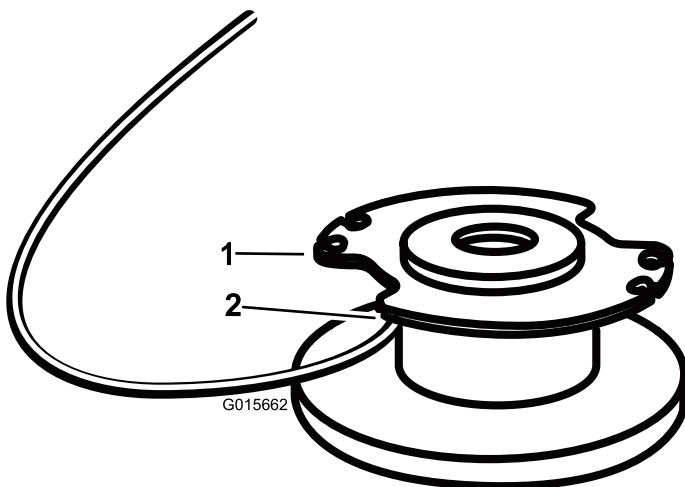

Figure 11
2. Remove the spool. See Replacing the Spool (Figure 11).
4. Insert the string into the anchor hole in the upper part of the spool (Figure 11). Wind the string onto the spool in the direction shown by the arrows on the spool.